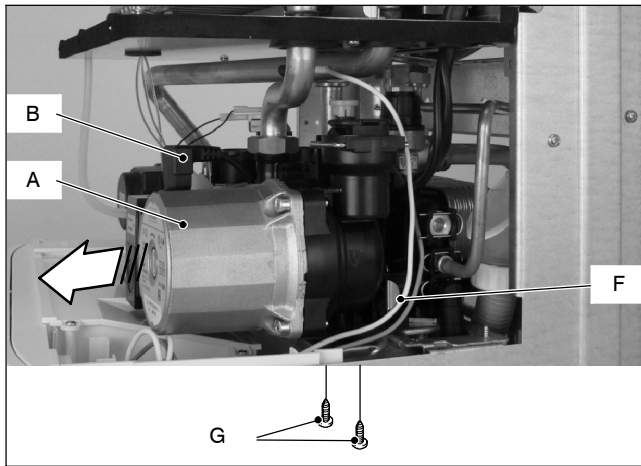

Fig. 3
- 7 Disconnect the connector B (Fig. 3).
- 8 Remove the locking plate *F* (Fig. 3).